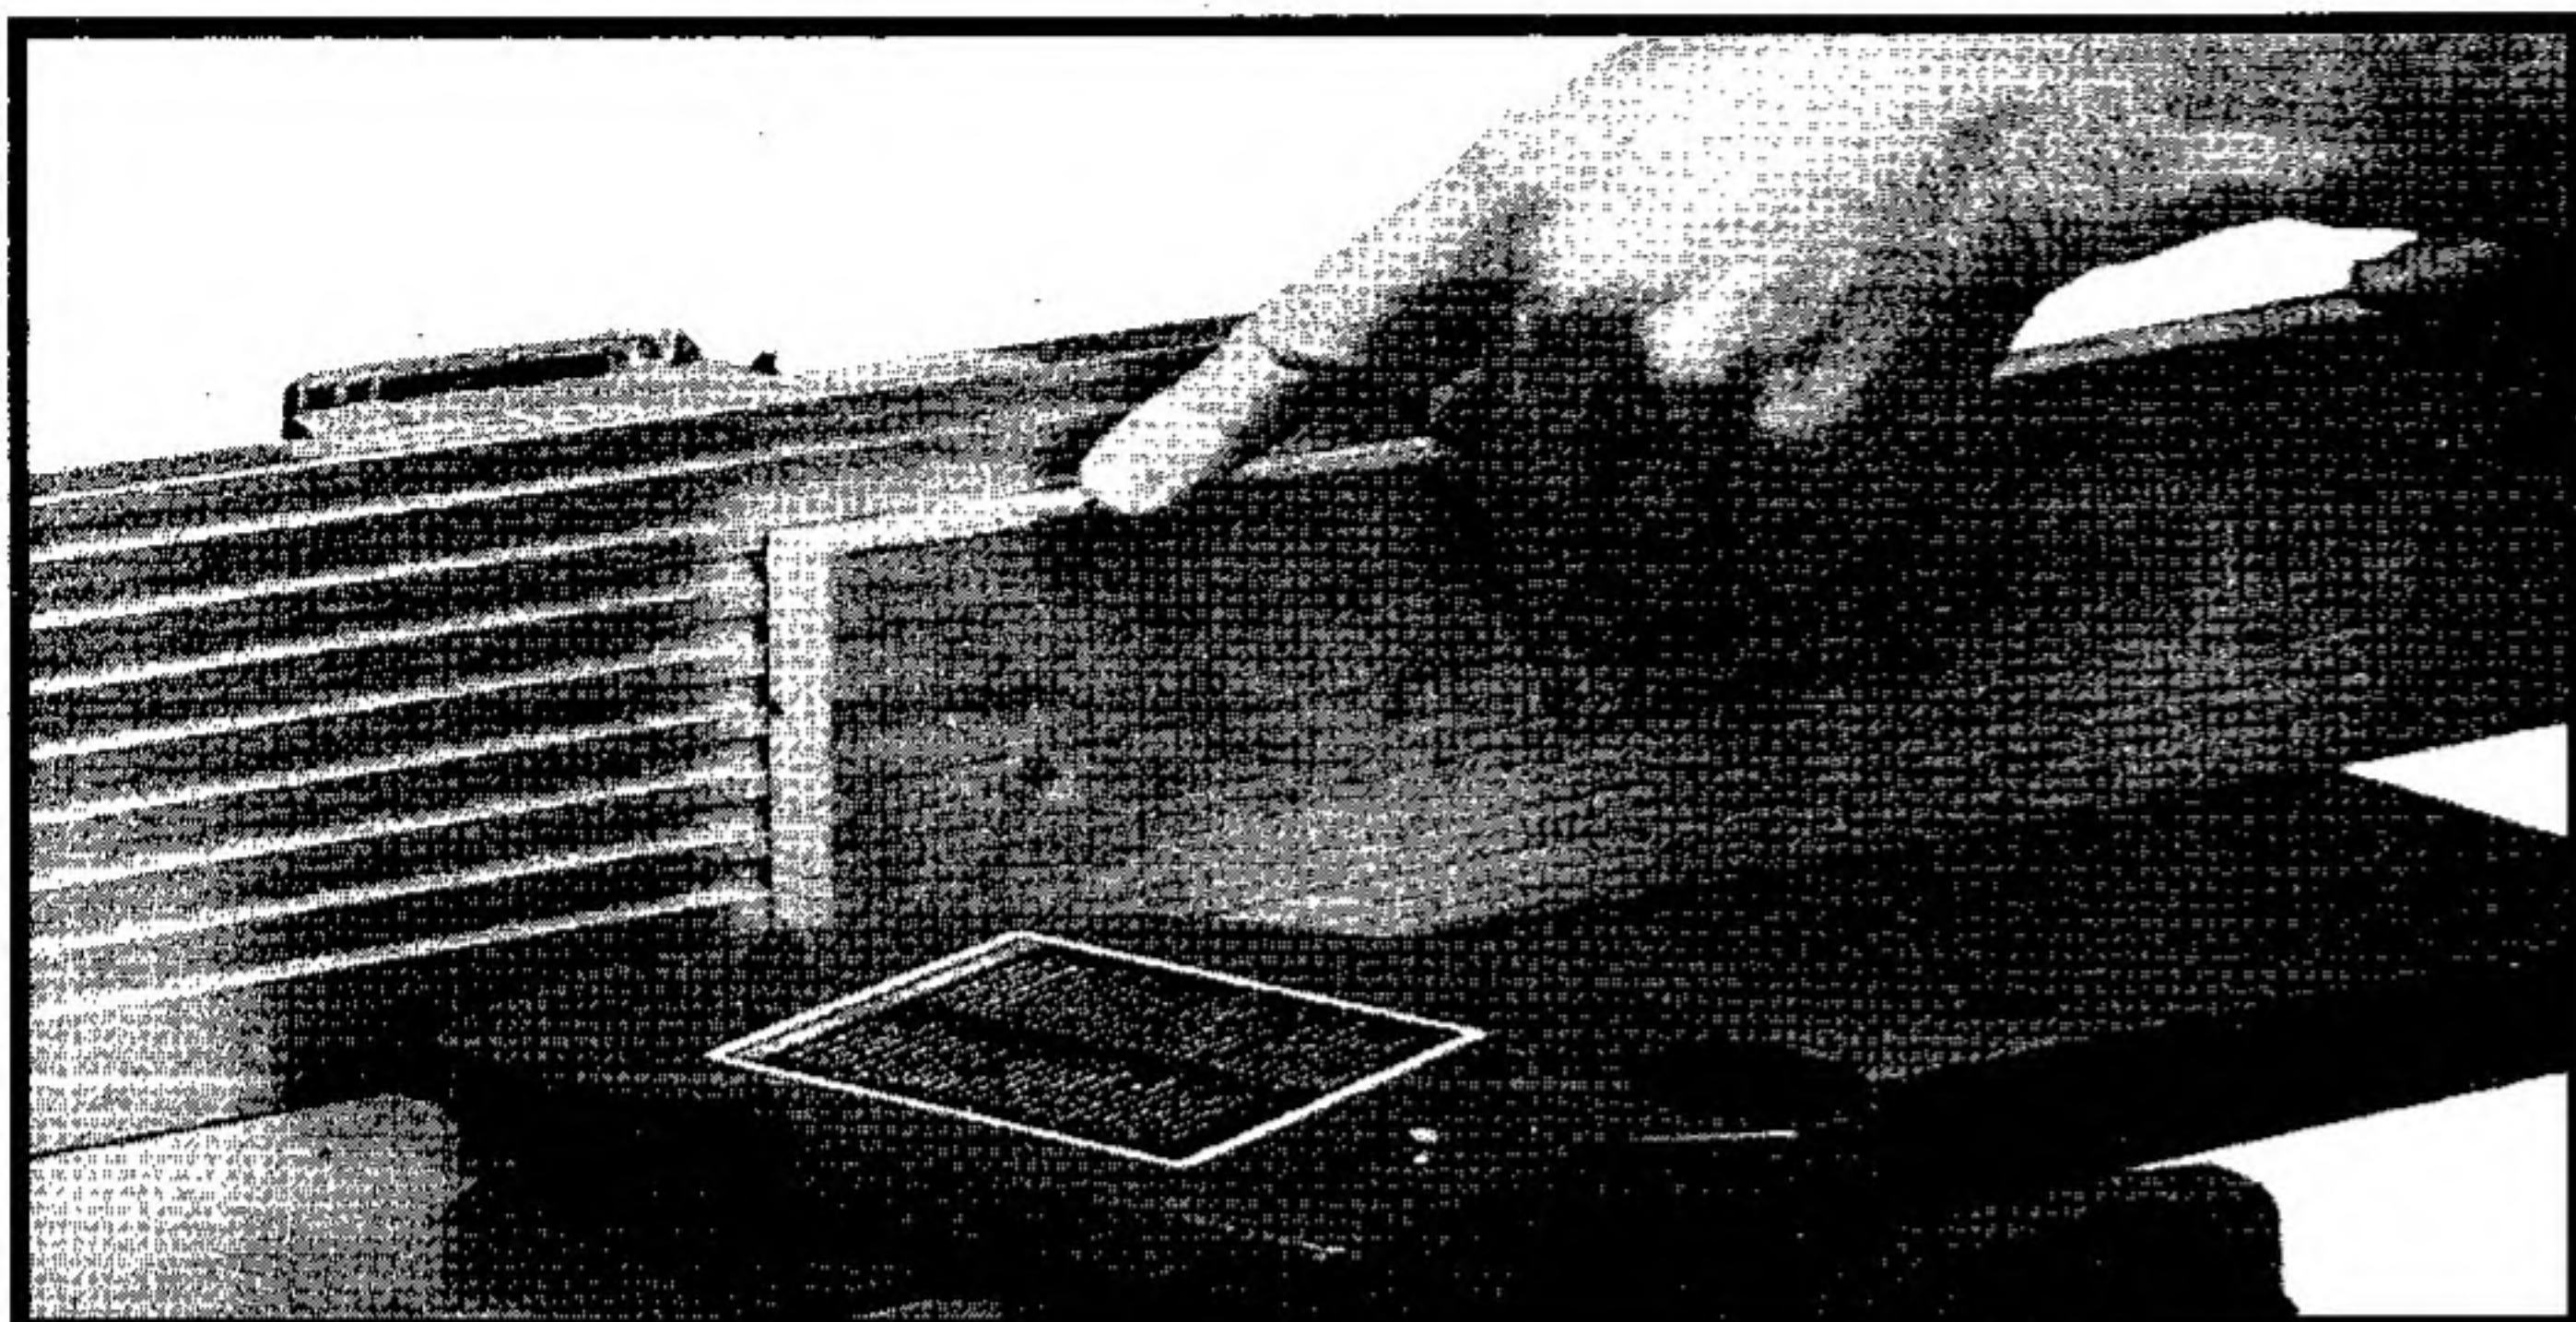

Fig. 37A
1. **JOINTING OPERATIONS** – Jointing cuts or edge jointing are made to square an edge of a workpiece. The workpiece is positioned on the jointer with the narrow edge of the workpiece on the infeed table and the major flat surface of the workpiece against the fence, as shown in Fig. 37A. The workpiece is moved from the infeed table, across the cutterhead to the outfeed table.